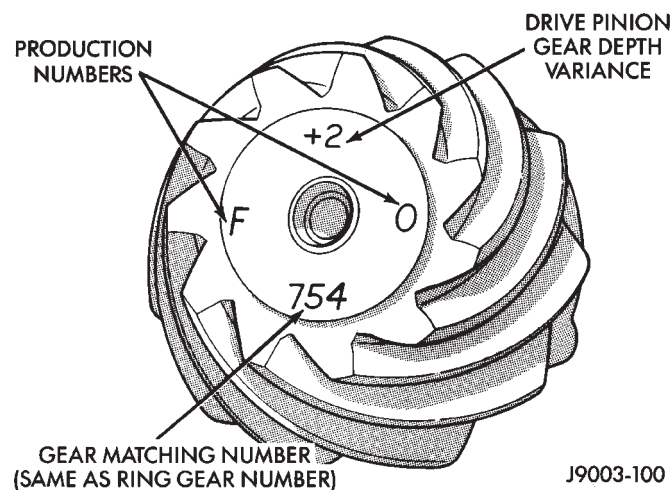

Fig. 51 Pinion Gear ID Numbers
Ring and pinion gears are supplied as matched sets only. The identifying numbers for the ring and pinion gear are marked on the face of each gear (Fig. 51). A plus (+) number, minus (-) number or zero (0) is marked on the face of the pinion gear. This number is the amount (in thousandths of an inch) the depth varies from the standard depth setting of a pinion marked with a (0). The standard depth provides the best teeth contact pattern. Refer to Backlash and Contact Pattern Analysis Paragraph in this section for additional information.
- (25) Select a shim equal to the shim selected above plus the drive pinion gear depth variance number marked on the face of the pinion gear (Fig. 51) using the opposite sign on the variance number. For exam-